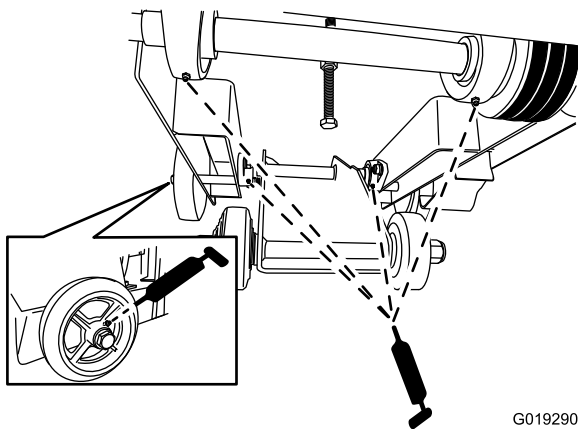

Figure 37
- B. At the front of the machine, find the grease fittings for the tilt bearing and arbor bearing blocks that are located beneath the base of the machine (Figure 37).
- A. Locate the grease fittings at the rear wheels (Figure 37).